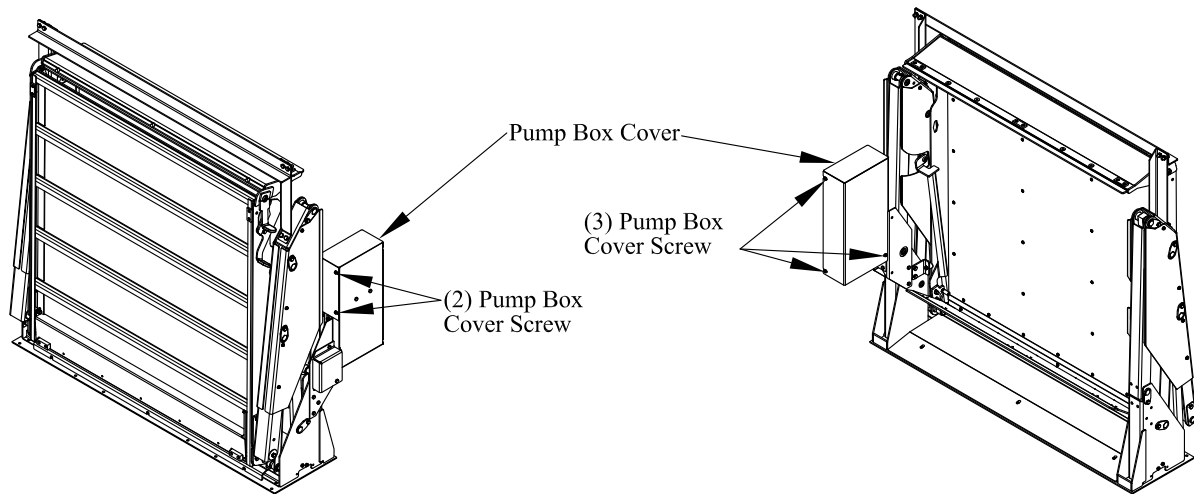

Figure 10: Pump Box.
3. **Remove** the pump box cover by removing five (5) thumb or hex screws (Figure 10).